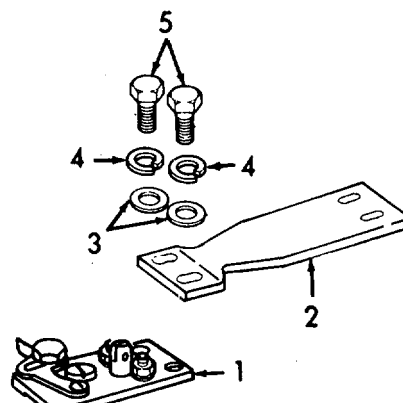

Figure 6-131. Clamp and Arm Assemblies, Assembly.
Figure 6-131 are deleted.**
- (5) Refer to Figure 6-131. Install clamp assembly (1) into position on arm assembly (2).
- (6) Install two washers (3), two lockwashers (4), and two screws (5).